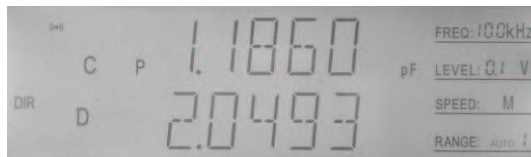

Figure 4-5 Direct display mode
1. The current display mode is DIR, and "DIR" is displayed on LCD, as shown in Figure4-5.